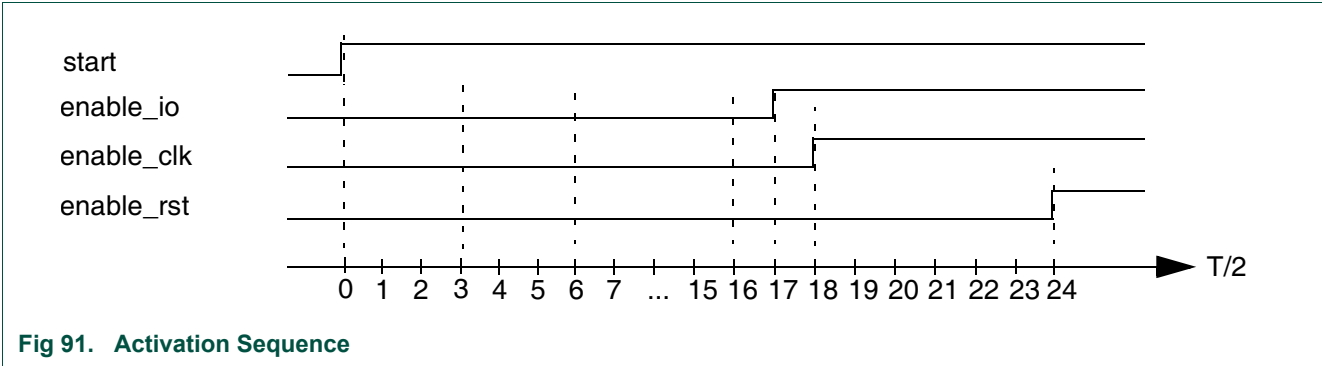
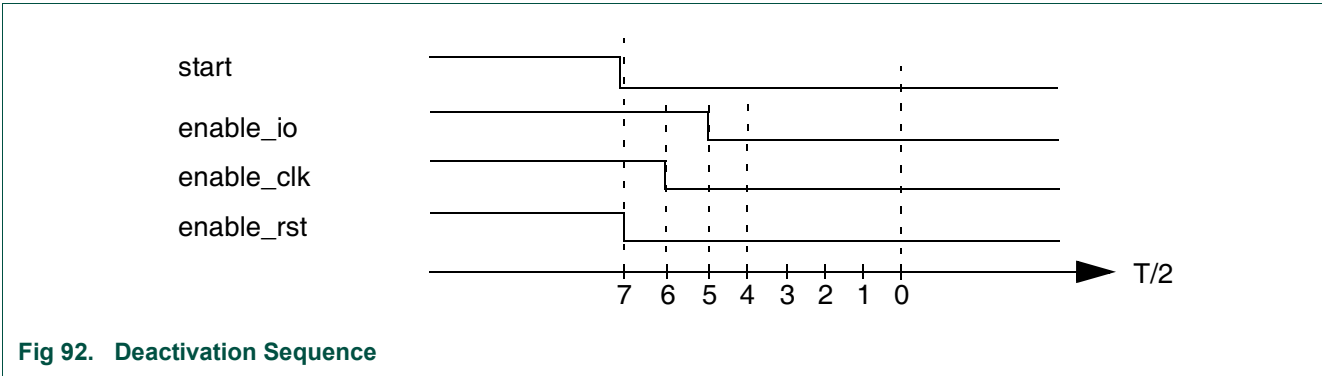

Fig 91. Activation Sequence
Fig 92. Deactivation Sequence
- The activation sequence is stopped between 0 and the rising of enable_io on Figure 91. The deactivation sequence will start from 4T/2 on Figure 92 and go to 0.
- The activation sequence is stopped between the rising of enable_io and the rising of enable_rst on Figure 91. The deactivation sequence will start from 6T/2 on Figure 92 and go to 0.
- The activation sequence is stopped after the rising of enable_rst on Figure 91. It is the normal case: the deactivation sequence will start from 7T/2 on Figure 92 and go to 0.